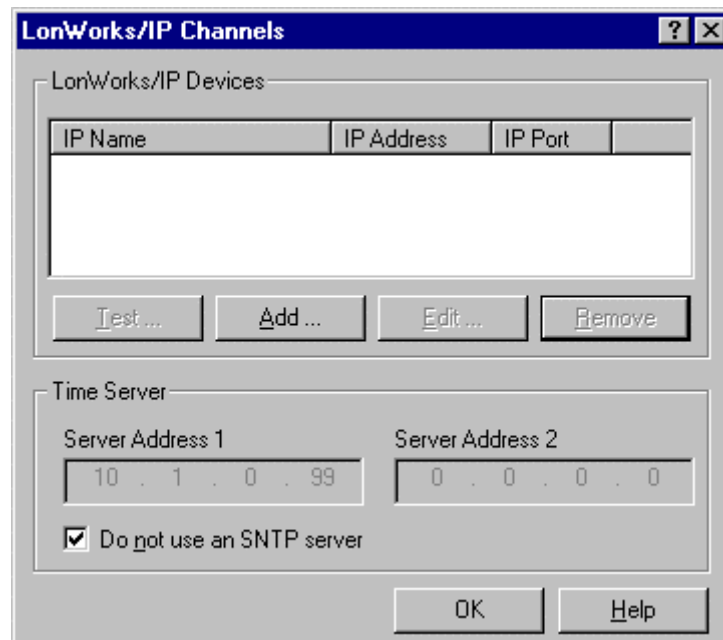

Figure 7-1 LONWORKS/IP Channels Control Panel
3. If the LONWORKS/IP channel will contain only *i*.LON 1000 devices, skip to step 7. If the LONWORKS/IP channel will contain one or more PCs running LNS 3.01, open the Windows control panel on the PC and run the *LONWORKS/IP Channels* control panel. This control panel appears in Figure 7-1: